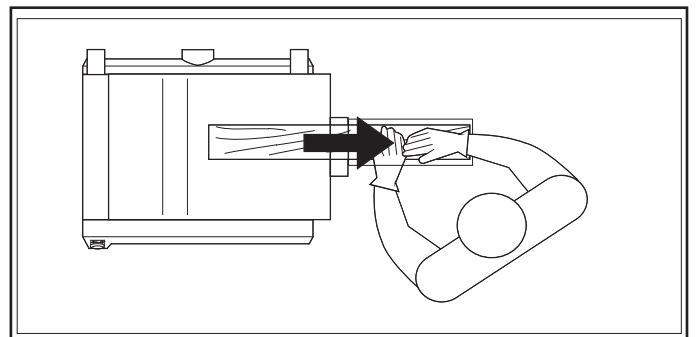

FIG. 9
2. To remove the workpiece from the machine, position yourself offset to one side of the outfeed opening. FIG. 9. Do not pull the lumber as it exits the machine. Let the out-feed roller move the workpiece out of the planer at its own rate, but support the lumber as it extends past the extension rollers, if needed.